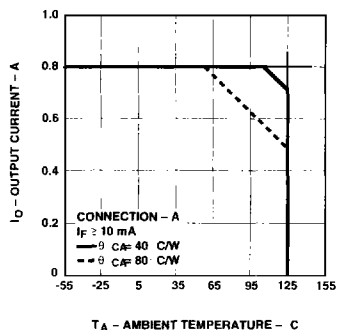
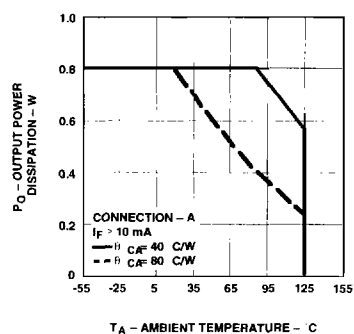

Figure 2. Maximum Average Output Current Rating vs. Ambient Temperature.
Figure 4. Output Power Rating vs. Ambient Temperature.
Average Output Current – Figure 2
Average Output Power Dissipation – Figure 4	800 mW ⁽²⁾
- For rating, see Figure 4. The output power P_O rating curve is obtained when the part is handling the maximum average output current I_O as shown in Figure 2.
IN ORDER TO DETERMINE V_{OUT} CORRECTLY, THE CASE TO AMBIENT THERMAL IMPEDANCE MUST BE MEASURED FOR THE BURN-IN BOARDS TO BE USED. THEN, KNOWING θ_{CA} , DETERMINE THE CORRECT OUTPUT CURRENT PER FIGURES 2 AND 4 TO INSURE THAT THE DEVICE MEETS THE DERATING REQUIREMENTS AS SHOWN.
Rating curves are shown in Figures 2 and 4. Figure 2 specifies the maximum average output current allowable for a given ambient temperature. Figure 4 specifies the output power dissipation allowable for a given ambient temperature. Above 55°C (for $\theta_{CA} = 80^\circ\text{C/W}$) and 107°C (for $\theta_{CA} = 40^\circ\text{C/W}$), the maximum allowable output current and power dissipation are related by the expression $R_{SS} = P_O(\text{max}) / (I_O(\text{max}))^2$ from which R_{SS} can be calculated. Staying within the safe area assures that the steady-state junction temperatures remain less than 150°C. As an example, for $T_A = 95^\circ\text{C}$ and $\theta_{CA} = 80^\circ\text{C/W}$, Figure 2 shows that the output current should be limited to less than 610 mA. A check with Figure 4 shows that the output power dissipation at $T_A = 95^\circ\text{C}$ and $I_O = 610$ mA, will be limited to less than 0.35 W. This yields an R_{SS} of 0.94 Ω .